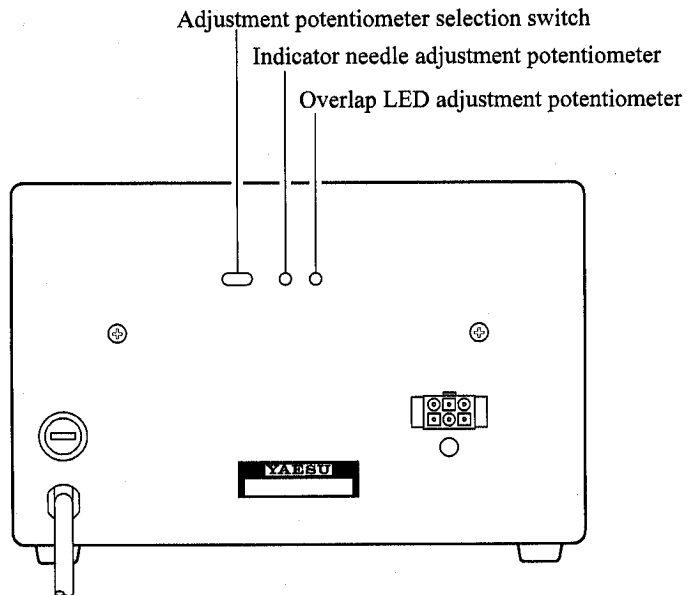

Figure 2
*If the indicator needle is not pointing exactly to 0°, go to the rear panel of the controller, and set the Adjustment Potentiometer Selection Switch (see Figure 2) to the **right** position. Now use a small screwdriver to adjust the Indicator Needle Adjustment Potentiometer (Fig. 2) so that the indicator needle points exactly to 0°.*